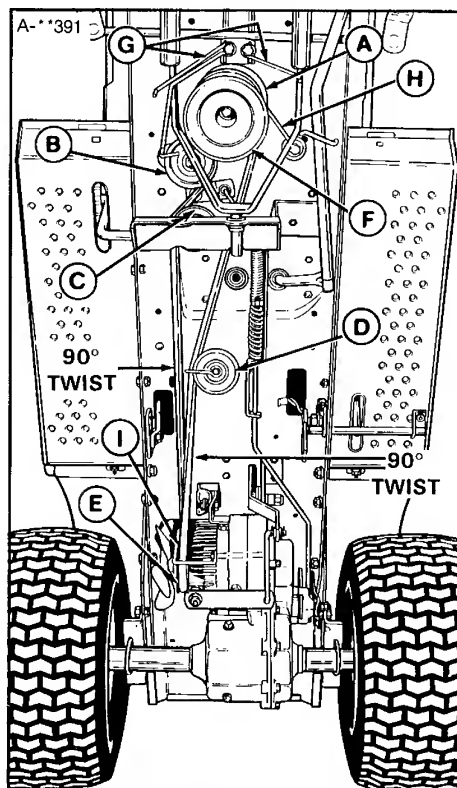
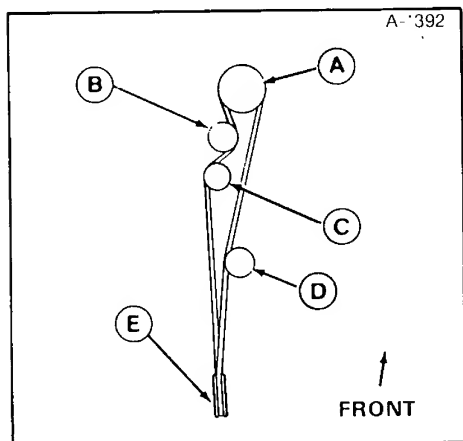

Figure 22. Tractor seen from underneath
Figure 23. Belt Diagram
2. Loosen the PTO pulley belt stops (G, figure 22).
3. Either remove the mower, or slip the mower belt off the PTO pulley (F).
4. Remove the tractor belt from the engine pulley (A) and allow to rest on top of the PTO pulley.
5. Loosen the belt stop on the idler pulley (B) and remove the belt.
6. Remove the idler pulley (D) by removing capscrew and nut.
7. Remove the belt guide (I).
8. Remove the belt from the transmission pulley (E). Rotate fan with belt to remove belt.
9. Remove the belt from PTO pulley (F) and tractor.
10. Install the new belt by reversing the procedure. Be sure the V side of the belt is against all the pulleys except the flat idler pulleys (B and D). There are only two twists in the belt, as shown in figure 22. The belt diagram is shown in figure 23.
Reference letters in Figure 23 are same as reference letters A thru E in Figure 22.
Adjust the two belt stops (A, figure 22) so there is 1/8" between belt stops and belt.